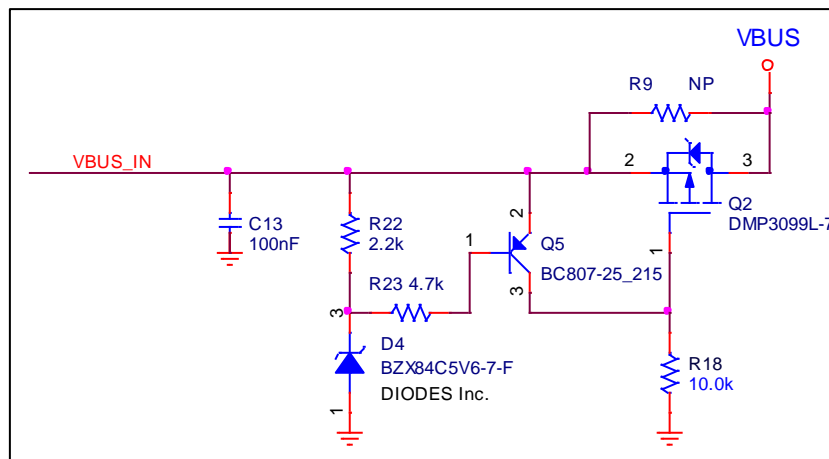

Figure 9: USB Overvoltage Protection
- OVP circuit on the VBUS power input (Figure 9)